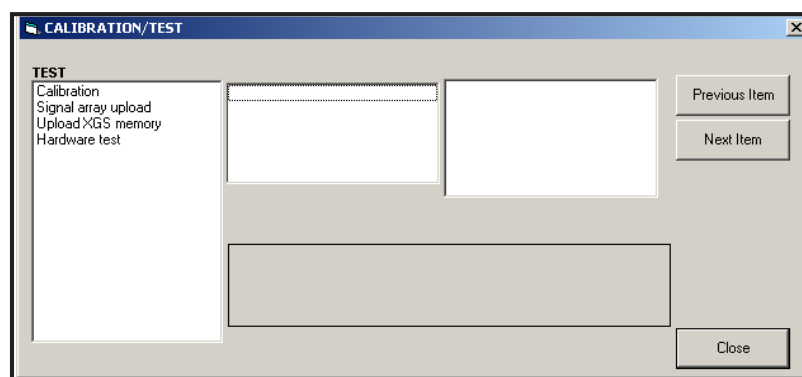

Figure 10: The Calibration/Test Menu
5. To enter data into the user program, double-click on the *Calibration/Test* menu. The window appears similar to Figure 10.
1. From the *Calibration/Test* menu (see Figure 10 on page 42), double-click on the *Calibration* entry to open the option.
To calibrate any option card installed in Slot 1 of the XGS868i, enter the *Calibration/Test* menu as shown in Figure 10 on page 42.